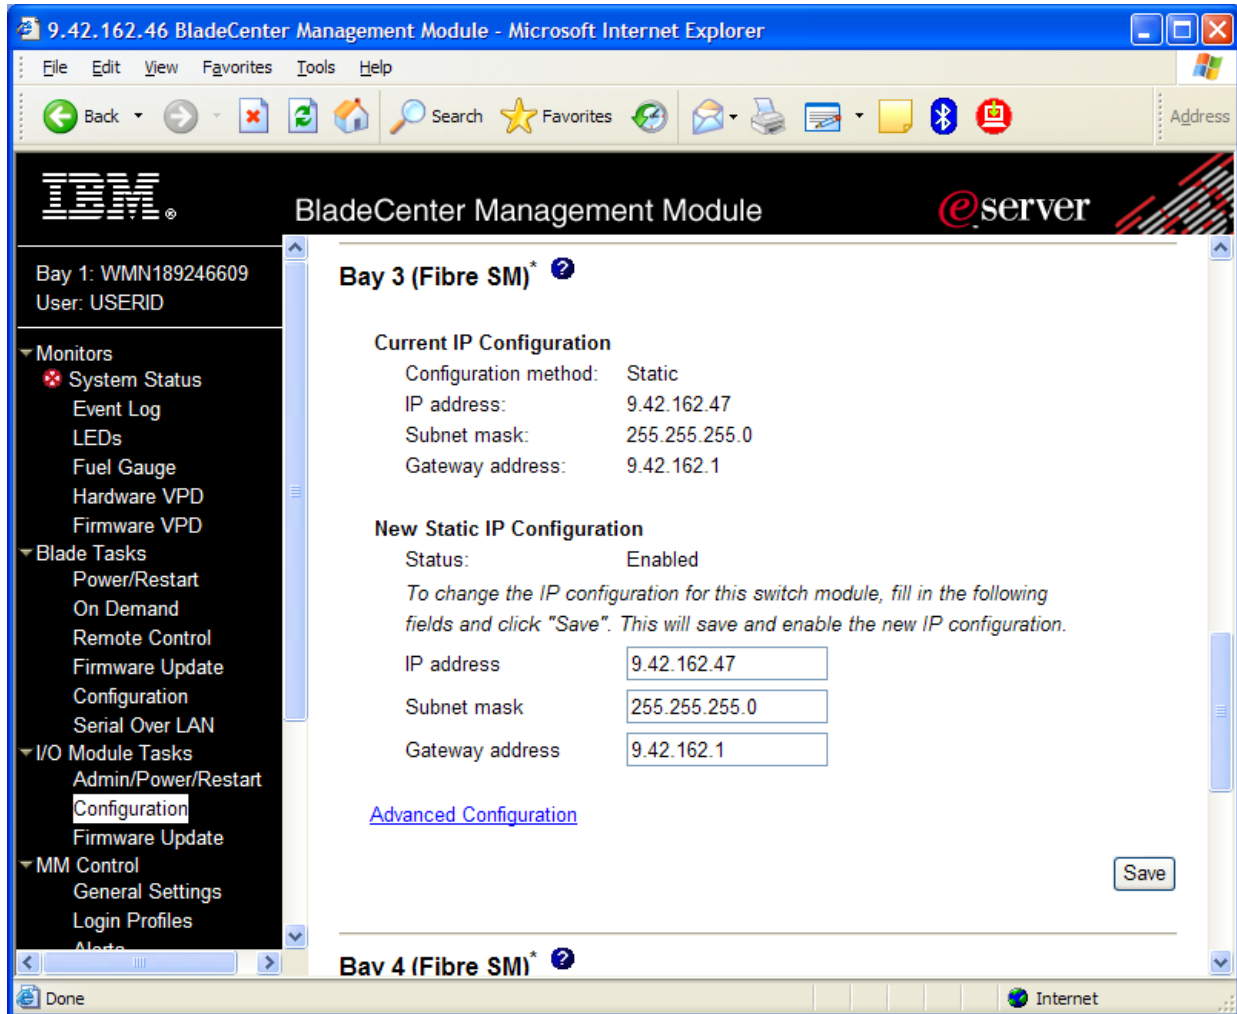
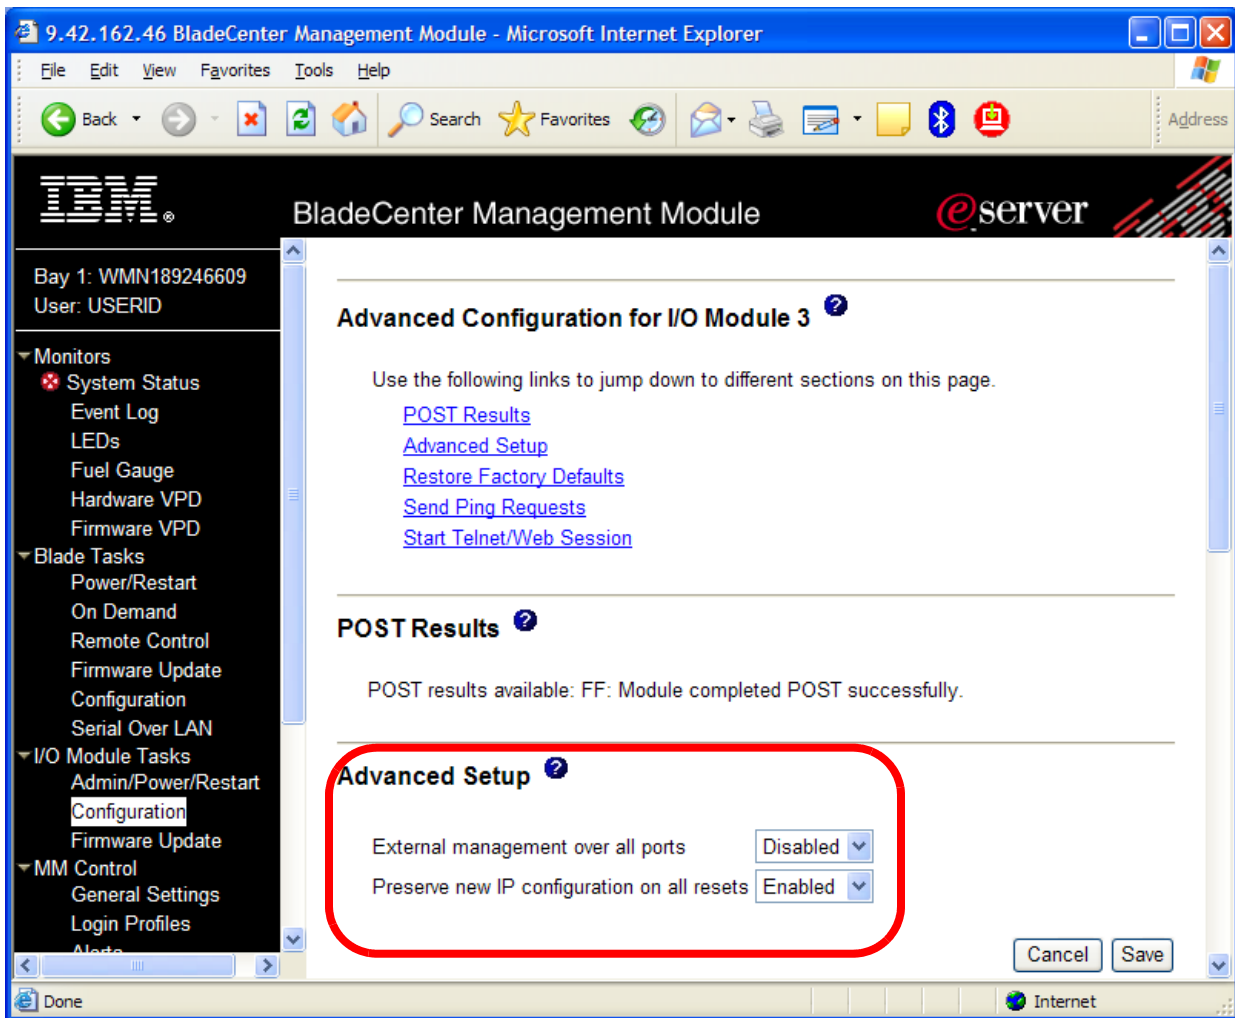

Figure 3-20 Setting the switch module IP address
Figure 3-21 Enabling External Ports on switch module
2. Change the IP address and click **Save** (see Figure 3-20 on page 43).
- While in the window shown in Figure 3-20 on page 43, click **Advanced Configuration** for the switch module. You will see a window similar to Figure 3-21. Ensure that the external ports are enabled. Click **Save**.